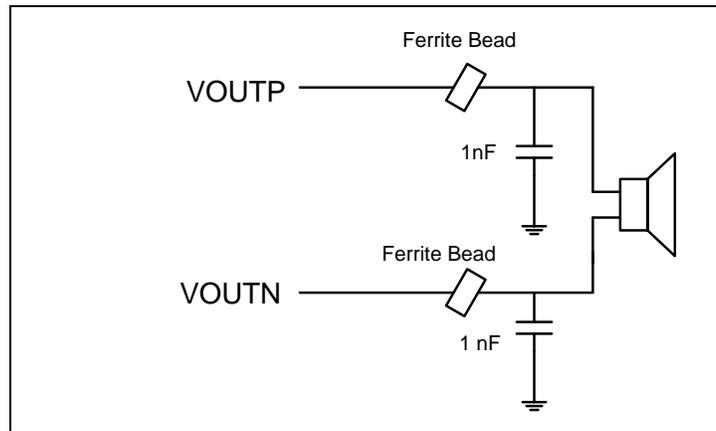

Figure 11 NAU83U15 Speaker Connections with Ferrite Bead Filters
**Ferrite Bead Filters** are used to reduce high-frequency emissions. The characteristic of a Ferrite Bead Filter is such that it offers higher impedance at high frequencies. For better EMI performance, select a Ferrite Bead Filter which offers the highest impedance at high frequencies, so that it will attenuate the signals at higher frequencies. The typical circuit diagram using a Ferrite Bead Filter for each output to the speaker is shown **Figure 11**.